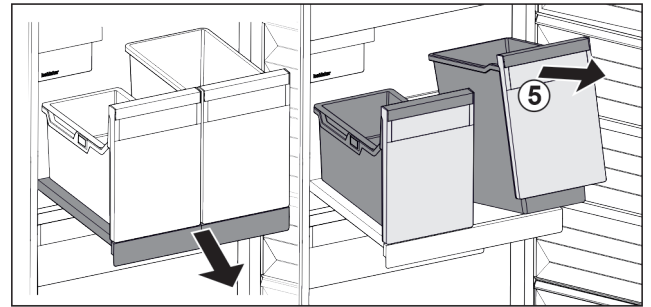

Fig. 169
- ▶ Lift the container Fig. 169 (5) at the front.